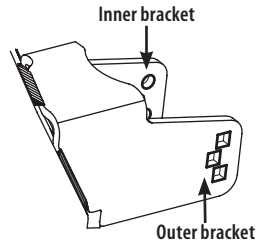

Figure 16
**NOTE:** On the left side and right side deck gauge wheels, the shoulder screw must be installed from the outside of the tractor inward, through the square hole on the bracket. On center deck gauge wheels (if equipped) the shoulder screw side of the assembly can be installed from either direction (Figure 16).